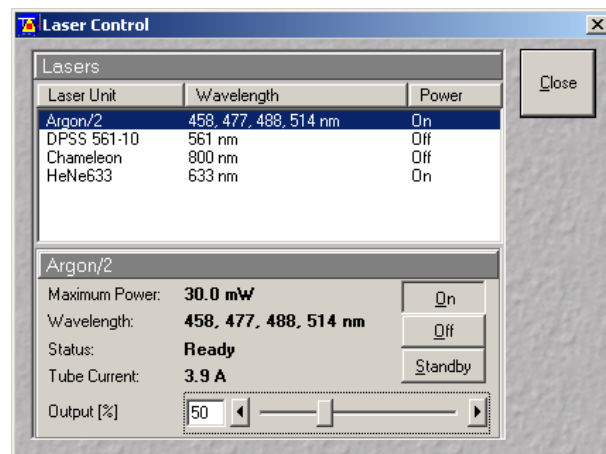

Fig. 4-8 Laser Control window
- This opens the **Laser Control** window (see Fig. 4-8), which consist of two panels. The upper **Lasers** panel lists all the available lasers, that can be selected within the display box. The selected laser can then be controlled then in the lower panel that bears the name of the selected channel.